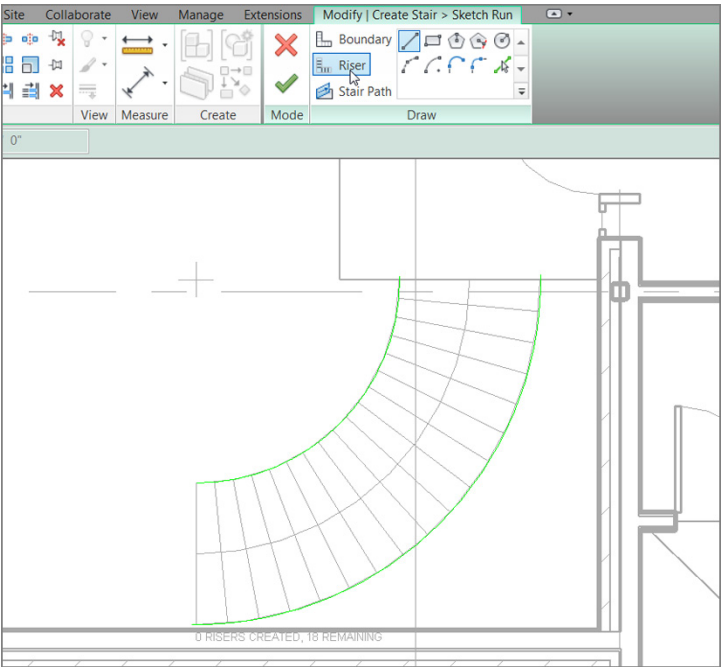

FIGURE 10.45: Click the Riser button.
4. On the Draw panel, click the Riser button, as shown in Figure 10.45.